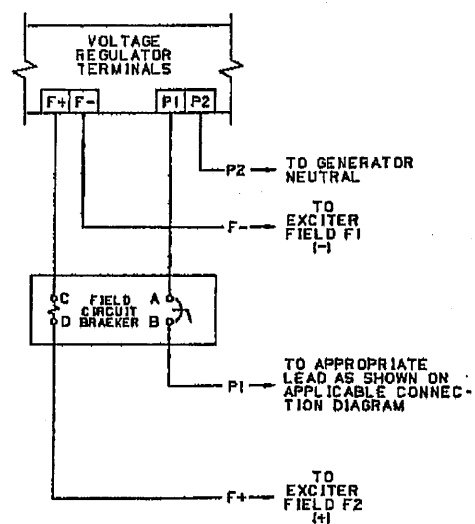

FIG. 1B FIELD CIRCUIT BREAKER OPTION
- NOTE 4 CONNECTION OF OPTIONAL FIELD CIRCUIT BREAKER IS SHOWN IN FIGURE 1B.